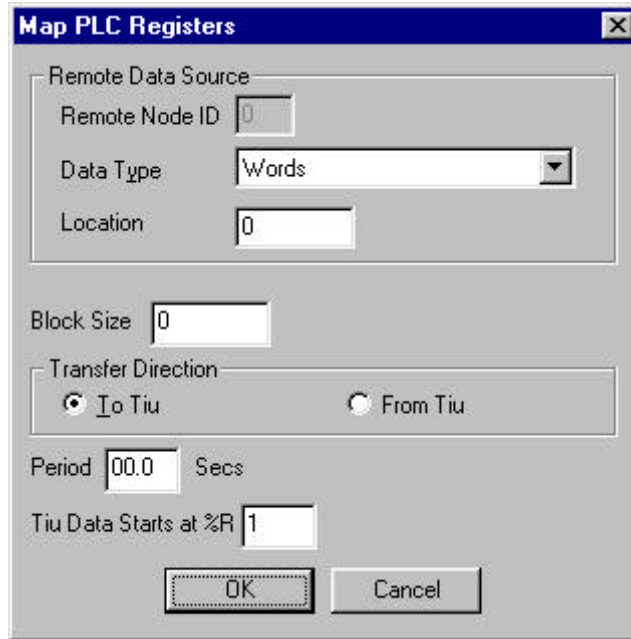

Figure 10.9 – Mapping PLC Registers and Local Registers
2. Click on the **Add** button to add a Map Register Statement. Figure 10.9 illustrates the how the registers are mapped.